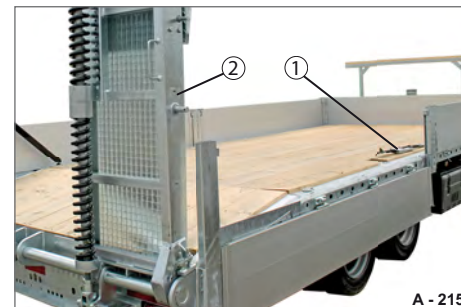

Fig. 53 Removing the securing tensioner
► Set down the complete securing tensioner (Fig. 53/1) safely to avoid damage.